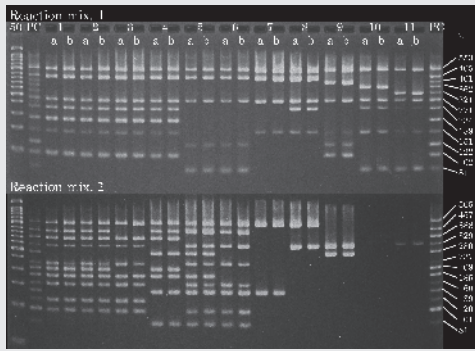

Fig.1 Example of the electrophoretic pattern
- ① Distribution patterns of ORFs are identified by reading electrophoresis banding patterns (Fig.1) .
- ② POT types of three categories are obtained by input electrophoresis banding patterns into the Excel calculation sheet which can be downloaded from Kanto Chemical Co. Inc web site.
- v As for the strains obtained from outbreaks, all POT types (1-3) become same. (1&2 in Fig.1)
Category	Sample number in Fig.1